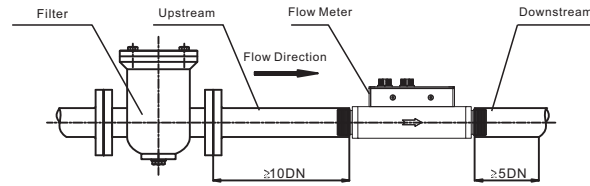

Figure 5-2
- It is preferably to first install the inlet end of the meter and then the outlet end of the meter; To ensure the measurement accuracy, an upstream straight pipe of length no less than 10DN and a downstream straight pipe of length no less than 5DN should be in place. (Fig 5-2)